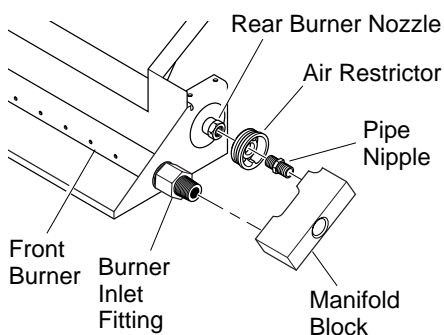

Figure 8 - Kit Assembly
1. Remove burner inlet fitting from front burner (installed in burner pan, see Figure 8).
3. Using thread sealant (resistant to the action of propane/LP gas) on larger end of fitting, screw the burner inlet fitting through the hole and into the front burner (see Figure 8). Tighten using a 7/8" wrench. If using propane/LP gas, see *Propane/LP Gas Conversion*, page 10.
4. Apply thread sealant compound to the 3/8" male threads of the burner inlet fitting. Thread the manifold block (see Figure 8) onto the burner inlet fitting. Use the bottom hole of the block.